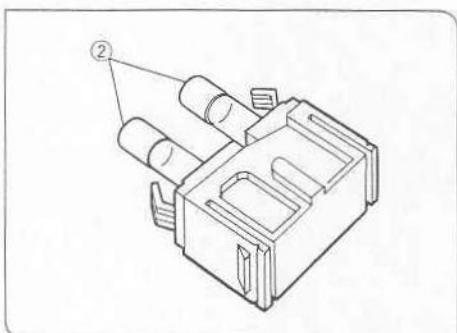

Fig. 14
2. Replace both fuses (2) with new ones. (Fig. 14)